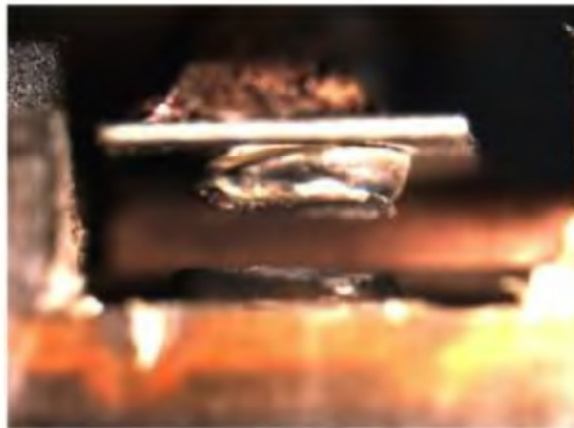

Figure 1. Strong erosion of both contacts.
4. Open the relay and assess the contacts. Compare them with the contacts of Figures 1 to 3.
If the relay resembles Figures 1 to 3, replace the compressor and relay J403 for the self-leveling system.